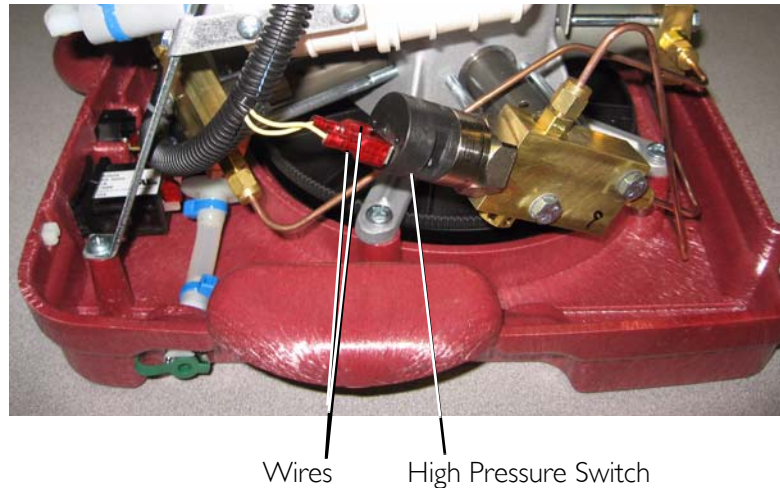

FIGURE 11.2 Belt and Pulley Upgrade
- Disconnect the two wires from the high pressure switch (FIGURE 11.2).
28. Connect the two wires to the high pressure switch (FIGURE 11.2).